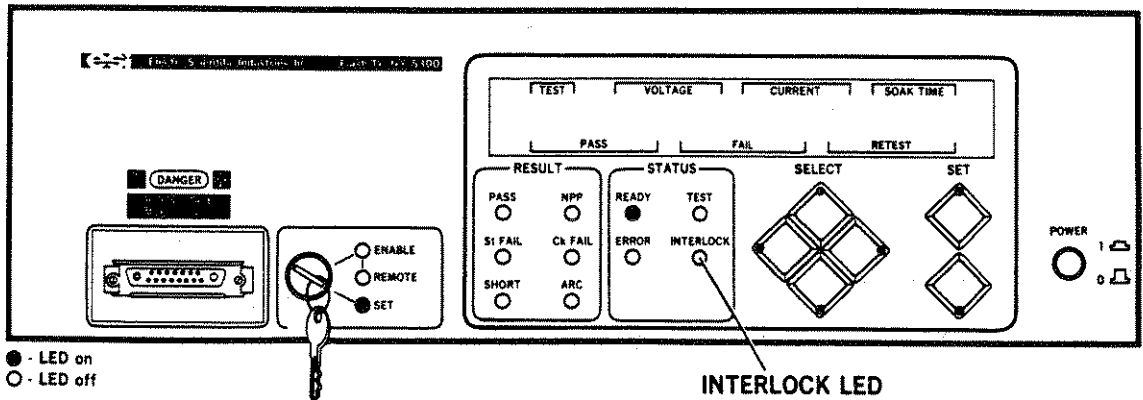

Figure 5-8. INTERLOCK LED Location
STEP 5. Place the sample capacitor in the test fixture and close the test fixture or test head cover. The INTERLOCK LED on the 5300 should turn off. Refer to Figure 5-8 for the location of this LED.